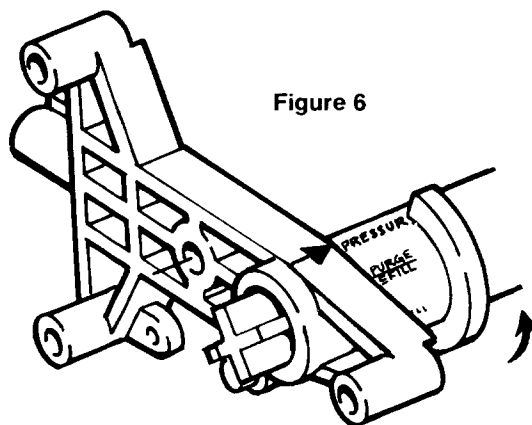

Figure 6
8. Push in RED KNOB and index timer to PRESSUR. (pressurize) position indicated on #1 cam (see Figure 6). Keep in this position for 5 minutes. This allows the tank to return to line pressure and permits easier movement of the valve discs.